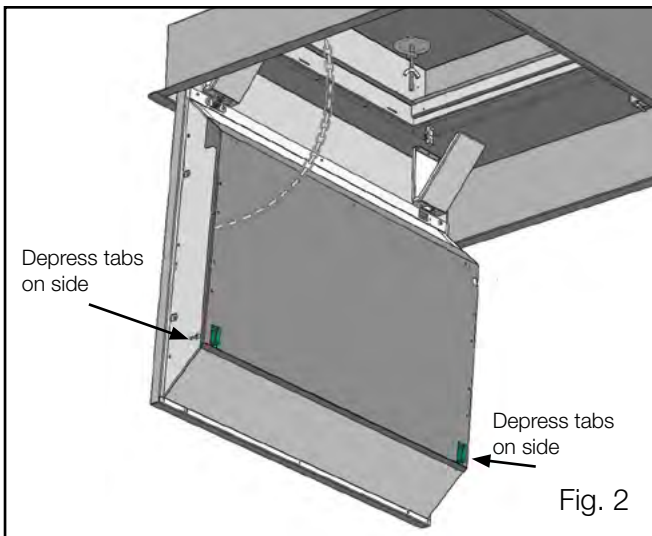

Fig. 2
Step 1b: Depress the tabs on either side of the two panels, pull down and allow them to swing open to expose the grease filters. (Fig. 2)